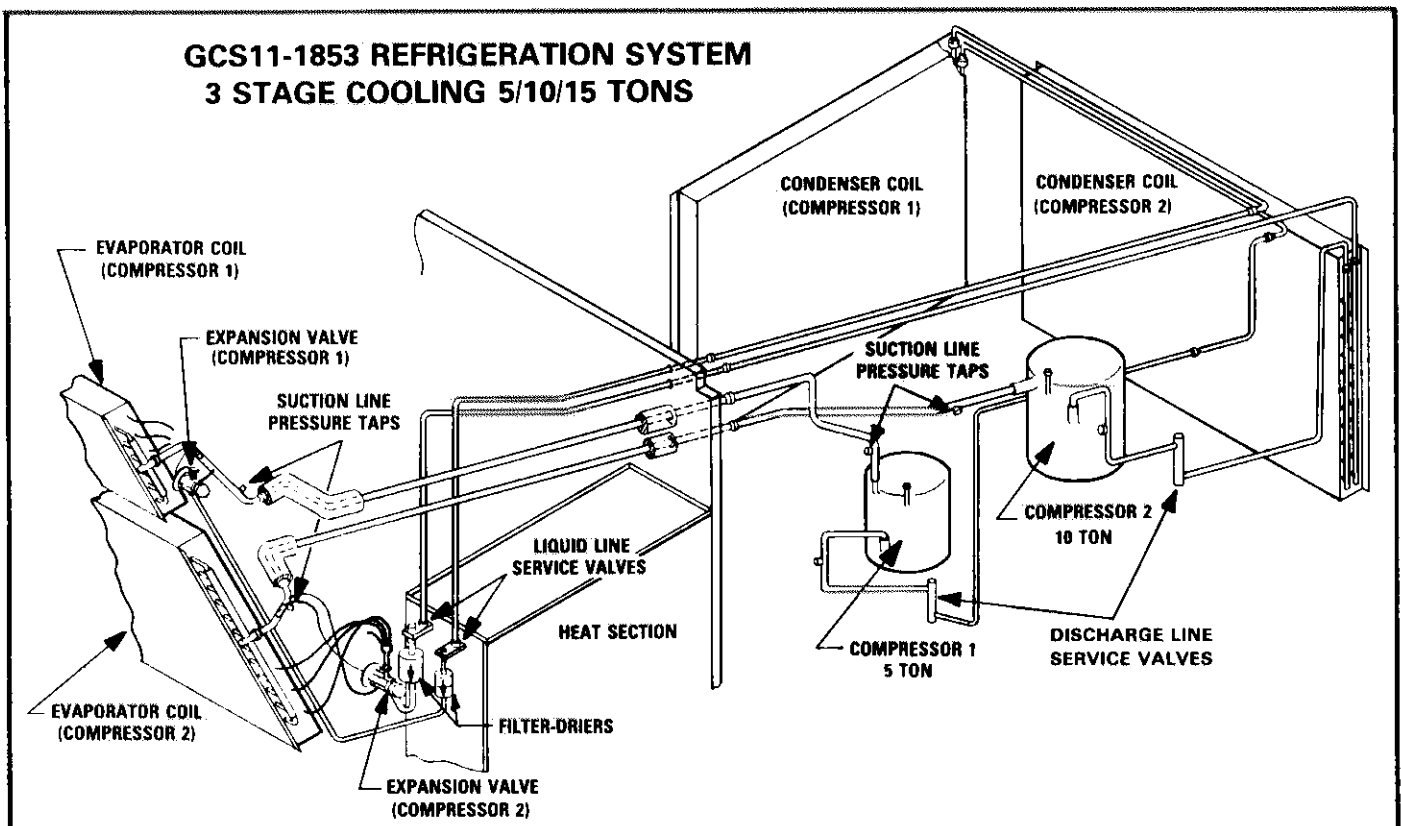

FIGURE 17
- 4 - Refer to Figures 17 and 18 for cooling system component arrangements of the 1853 and 2753 units.